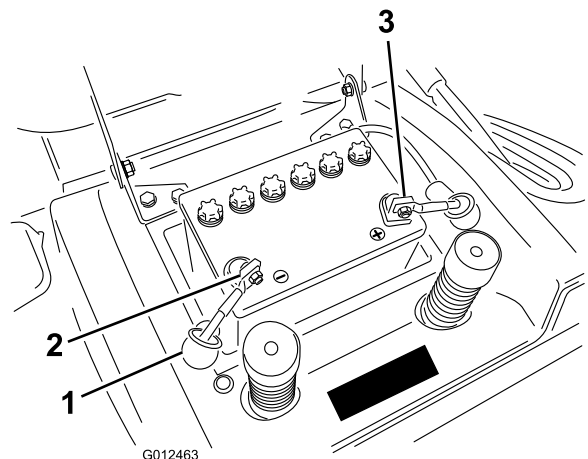

Figure 31
7. Disconnect the negative (black) ground cable from the battery post (Figure 31).
9. Disconnect the positive (red) cable from the battery post (Figure 31).
1. Place the battery into the chassis with the battery posts toward the rear of the machine (Figure 31).
3. Using the bolt and wing nut, connect the positive (red) cable to the positive (+) battery post (Figure 31). Slide the rubber cover over the battery post.
4. Using the bolt and wing nut, connect the negative (black) cable to the negative (–) battery post (Figure 31). Slide the rubber cover over the battery post.